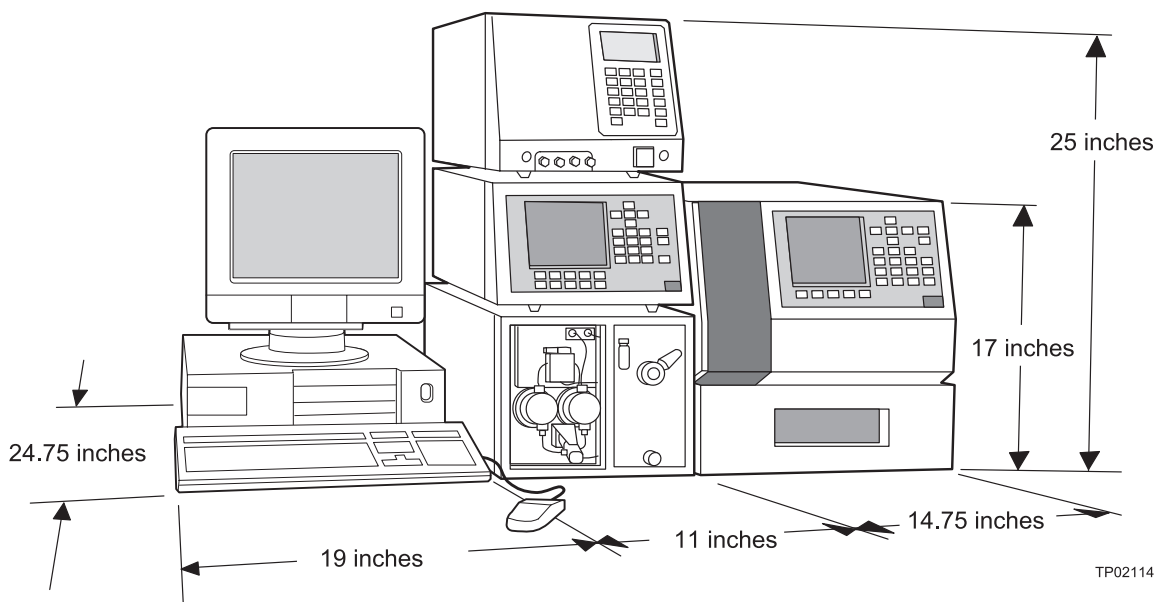

Figure 1-1 Waters 600E System Dimensions
- Bench space is available for detectors, an autosampler, and a data system (see Figure 1-1).
Figure 1-1 outlines the dimensions of a typical Waters 600E Multisolvant Delivery System (including detector, autosampler, and data system).